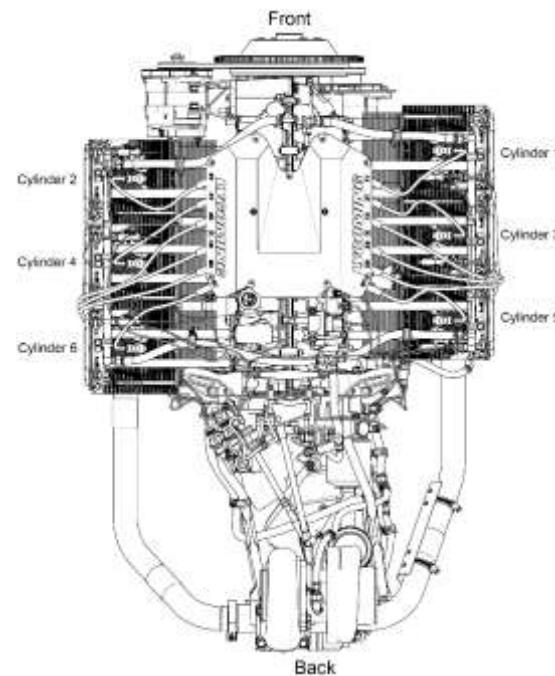

Figure 10
- In a top view of the engine, the cylinders on the right are 1-3-5. Cylinder 1 is at the front of the engine. Refer to Figure 10.
- In a top view of the engine, the left side cylinders are 2-4-6. Cylinder 2 is at the front of the engine. Refer to Figure 10.